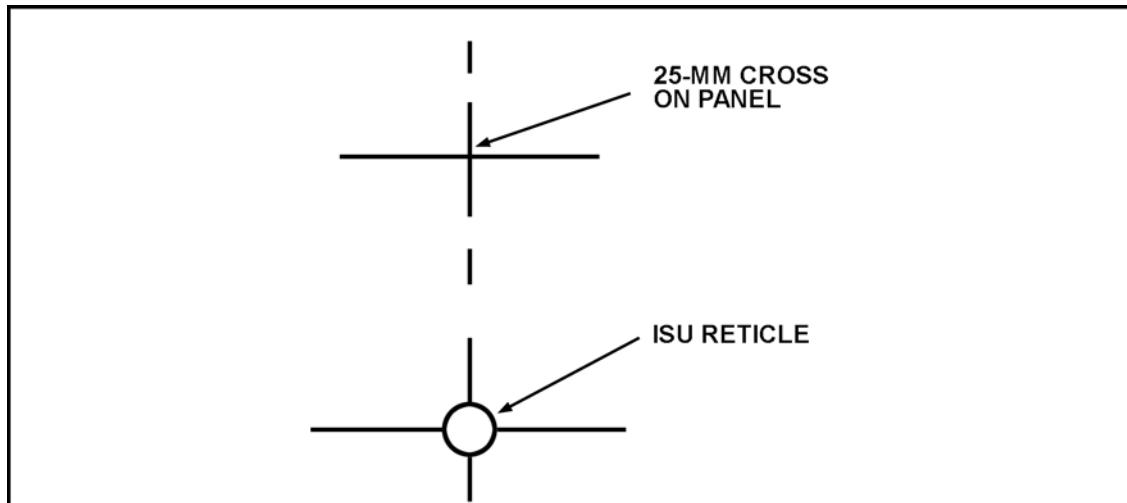

Figure B-51. Position of ISU reticle below the 25-mm cross.
(1) Insert the 25-mm adapter and boresight the telescope in the 25-mm gun. If necessary, focus the telescope.
(2) Use the gun and turret handwheels to align the ISU reticle with the ISU cross on the panel.
(3) Use the gun handwheel to depress the gun until the top of the ISU reticle touches the bottom of the ISU cross on the panel (Figure B-51).